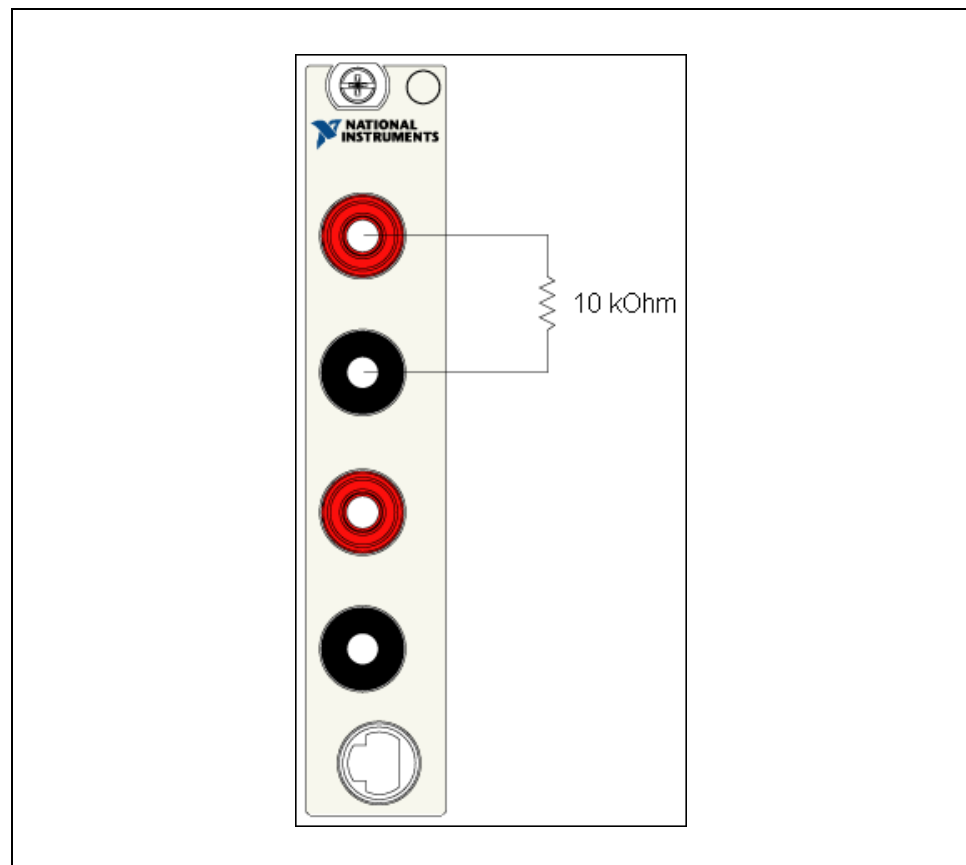

Figure 3-1. 2-Wire Resistance Wiring Diagram
2. DMM probes have already been connected to the Input HI and Input LO terminals of the NI PXI-4070 DMM. The pins of the DMM probes are connected to a 10 k Ω resistor as shown in Figure 3-1.